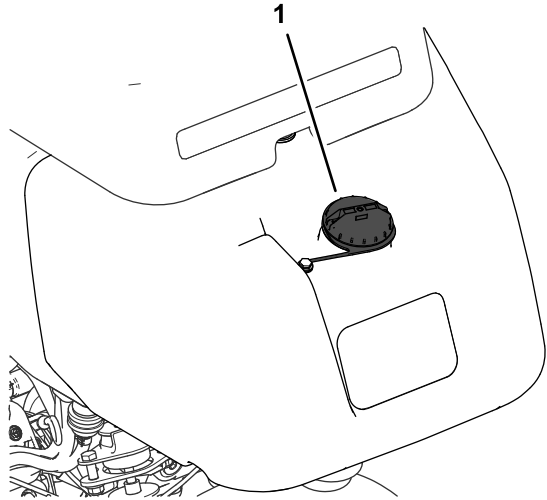

Figure 25
1. Clean around the fuel-tank cap and remove it (Figure 25).